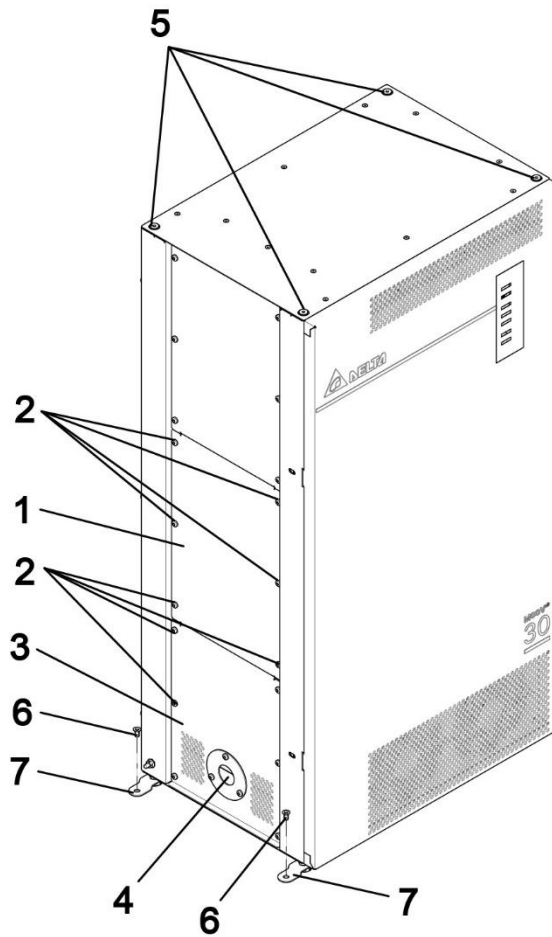

Figure. 20 WPB Cover Plates
CAUTION: 	WPB is provided with M8 threaded holes (5) at the top, that can be used with eyebolts for lifting purposes (supplied by others), See Figure. 20. Replace provided bolts after eyebolts are removed to retain ingress protection.